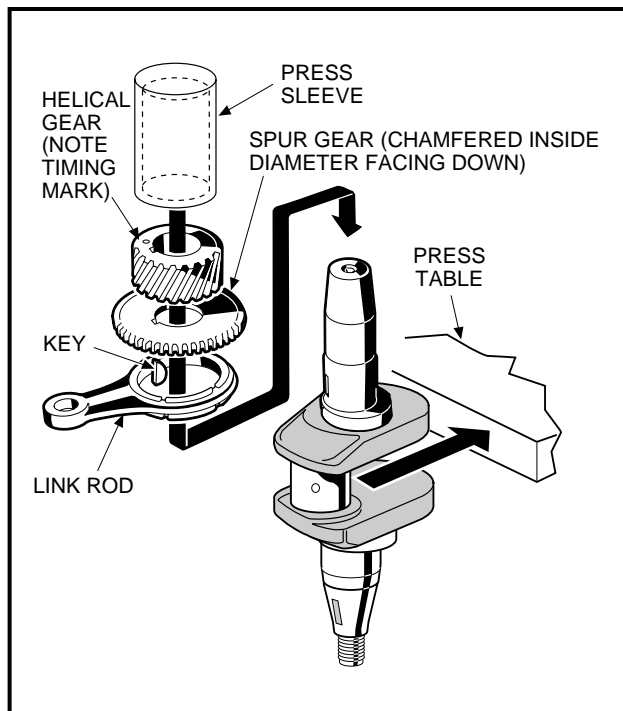
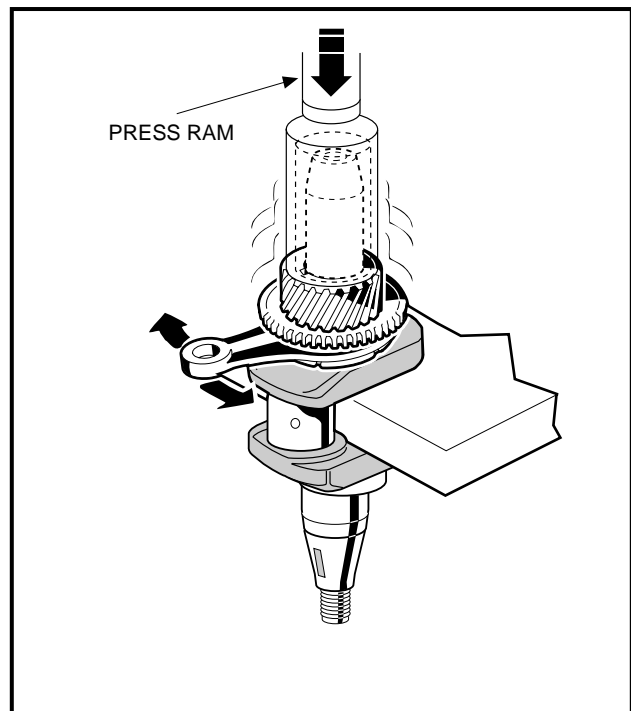

Figure 13-94 Crankshaft Installation
Figure 13-95 Press on Spur Gear and Helical Gear
3. If the link rod was removed from the PTO side of the crankshaft, support the crankweb as shown, slide the link rod onto the crankshaft, and install the key. Press the spur gear and helical gear onto the crankshaft (**Figure 13-94, Page 13-43 and Figure 13-95, Page 13-43**). See following **CAUTION** and **NOTE**.
NOTE: Make sure the chamfered inside diameters of the spur gear and helical gear are oriented downward on the crankshaft as shown (**Figure 13-94, Page 13-43**).